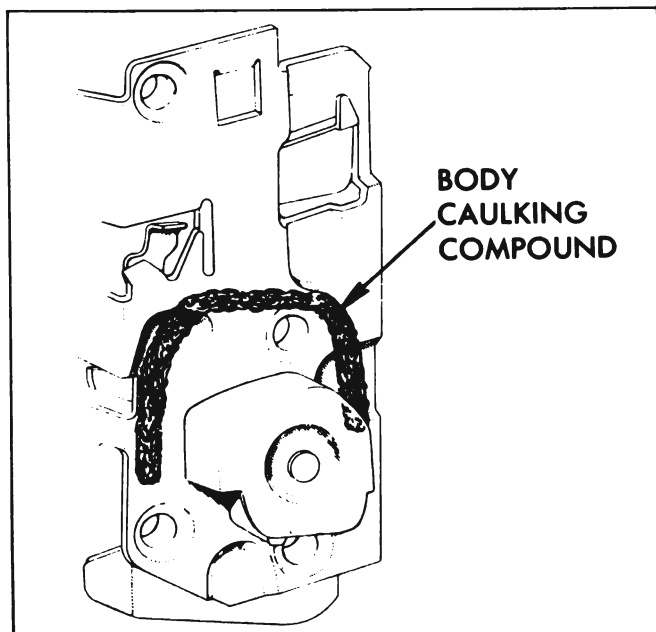

Figure 13-203—Door Lock Sealing
5. Prior to installation of front door lock, apply a ribbon of body caulking compound (approximately $\frac{1}{4}$ inch in diameter) across face of lock frame approximately $\frac{3}{4}$ inch from above the rotary bolt housing, as indicated in figure 13-203.
5. Prior to installation of front door lock, apply ribbon of medium-bodied sealer (approximately $\frac{1}{4}$ inch in diameter) across face of lock frame approximately $\frac{3}{4}$ inch above rotary bolt housing, as indicated in figure 13-203.